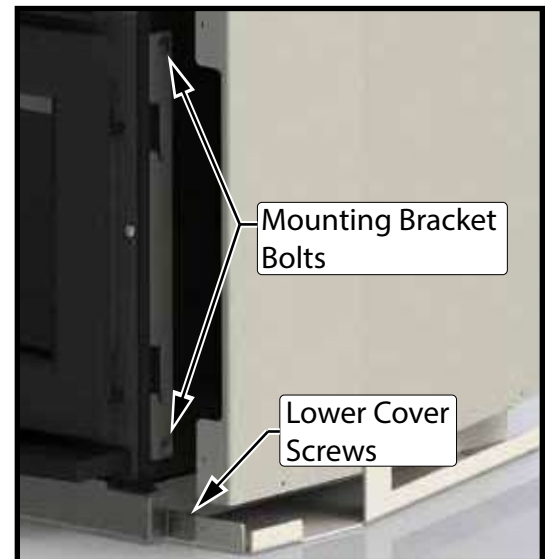

Figure 10: Blower Bolts and Screws.
3. Using a 3/8" wrench, back off the two bolts (on each side of the firebox) that secure the blower mounting bracket and spacer to the unit by 1/8"/4mm (Figure 10). Do not remove the bolts.